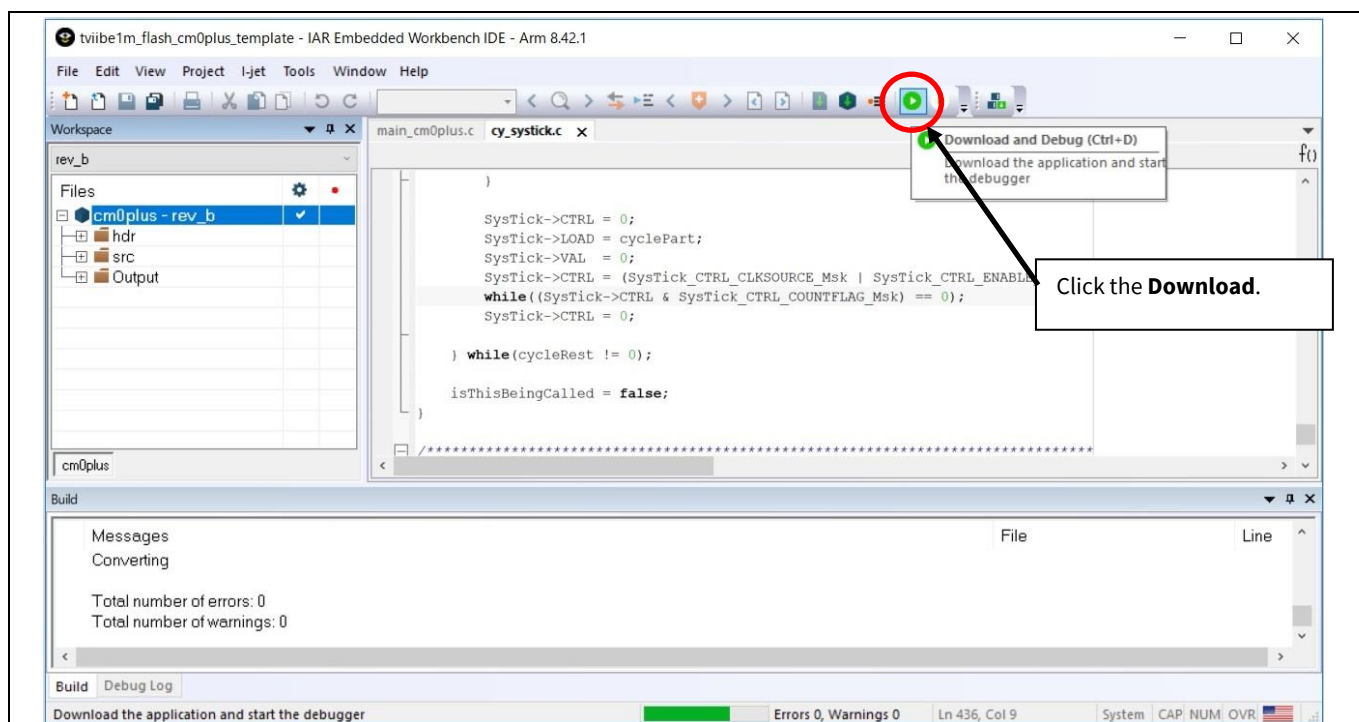

Figure 28 Debug the project of SDL project
When these operations are performed, both CM0+ programs will be in the program running state and debugging will be possible as shown in **Figure 28**. The board LED starts blinking.
3. To load the program to the Flash memory, click the **Download** icon as shown in **Figure 28**.